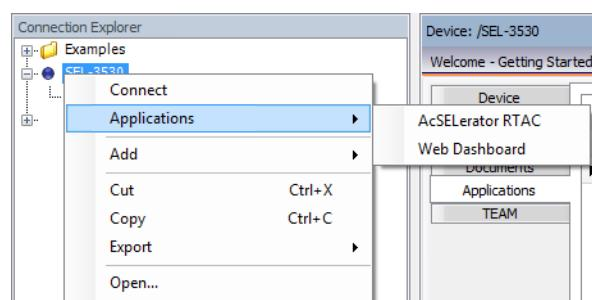

Figure 4.24 Select AcSELERator RTAC
- Step 14. Right-click **SEL-3530** in the **Connection Explorer** and click **Applications > AcSELERator RTAC**, as shown in *Figure 4.24*.